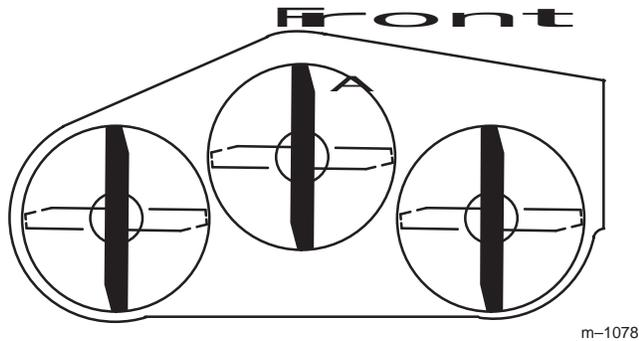
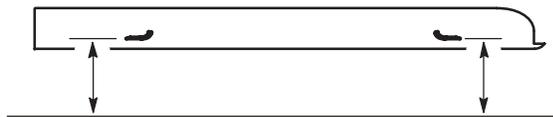

Figure 61
Figure 62
- With the machine on level surface, position one blade front-to-rear (Fig. 61). Measure at "A" and from level surface to the cutting edge of the blade tips (Fig. 62).